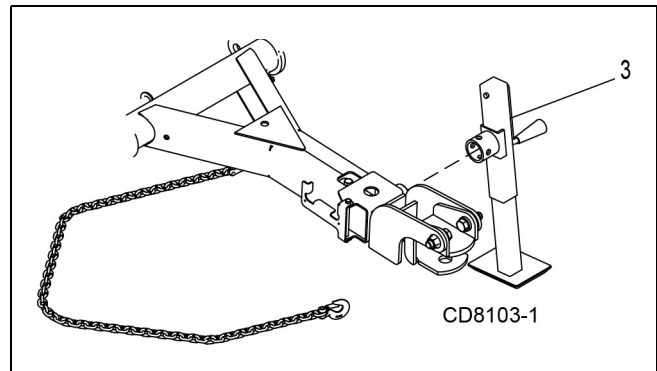
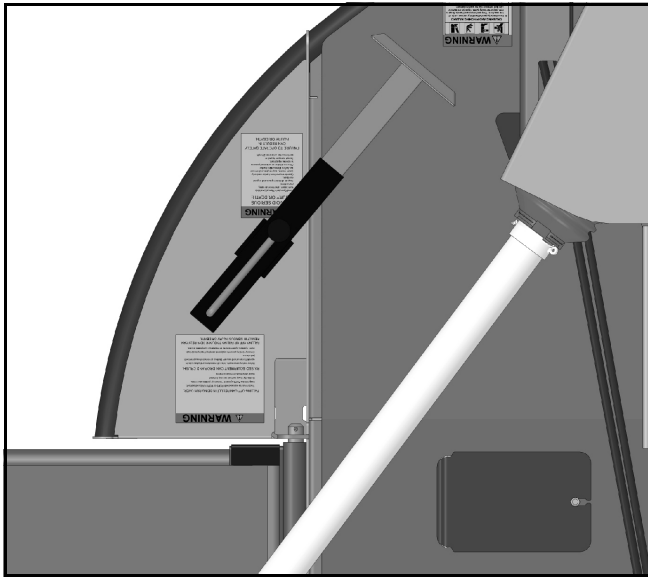

Figure 1. Cutter to Tractor Connection
Figure 2. Jack in Storage Position
2. Attach safety tow chain to drawbar support. Leave enough slack for turning (Figure 1).
4. Remove parking jack (3) from the tongue and attach it to the storage post on the front of the unit.
5. Place jack in storage position as shown in Figure 2.
3. Install safety pin in lock position. (See Figure 2)